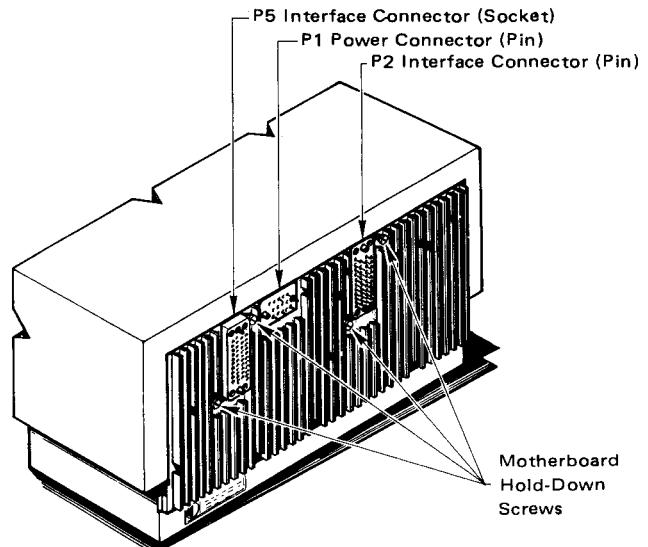
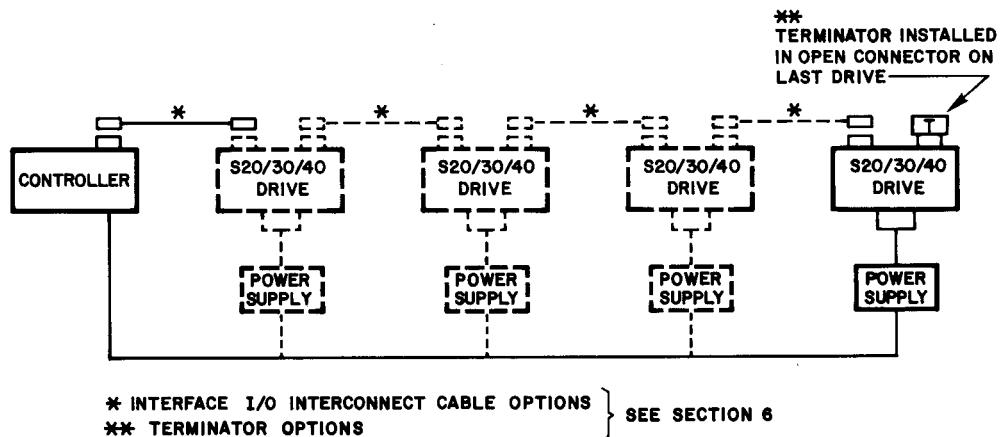

Figure 2-5 SERIES 30 REAR PANEL INTERFACE CONNECTORS
Figure 2-8 DISK DRIVE DAISY CHAIN INTERCONNECT AND TERMINATOR SCHEME
A standard Series 30 Disk Drive has two interface (Input/Output) and one power connector on its rear panel, as shown in Figure 2-5. The two I/O connectors are connected in parallel, pin for pin, by the drive's Motherboard PCB. Of these, connector P2 has pin (M) contacts, while connector P5 has socket (F) contacts. Table 2-1 lists the connector parts required for cable ends to mate with these rear I/O connectors.
Figure 2-8 illustrates the typical scheme for connecting one to four drives to one controller, where more than one is referred to as a daisy chain system. Referring to Figure 2-5, it may be seen that both pin (M) and socket (F) connectors are available on the rear panel of the drive. The option schedule in Section 6 lists F/F, M/M and F/M styles of cables as well as both M and F contact terminators. The user thus has